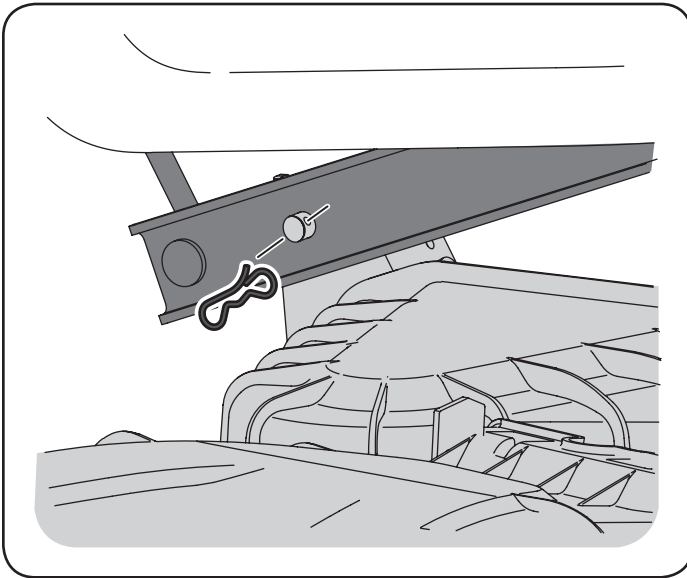

Figure 23
9. Looking at the cutting deck from the left side of the tractor, locate the bow-tie pin on the rear left side of the deck. See Figure 23.
10. Remove the bow pin and slide the deck pin out of the deck lift arm. See Figure 23.